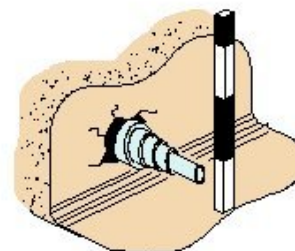

Figure 26- Impact Mole Head Appearing in Receiving Pit
11. The operative should signal to the mole operator controlling the operation to reduce the air supply to a gentle hammer action. Do not allow anyone to stand in the reception pit when the impact mole is entering the reception pit see Figure 26.